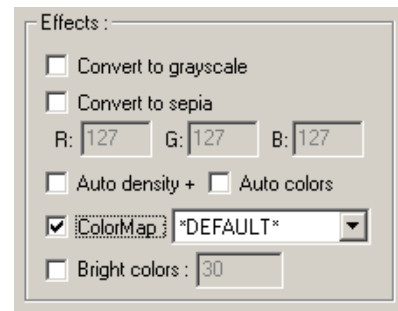

Fig.105 - Effects frame
- 5) In the **Effects** frame, shown in fig. 105, select the **ColorMap** box and choose the desired profile in the pull-down menu.